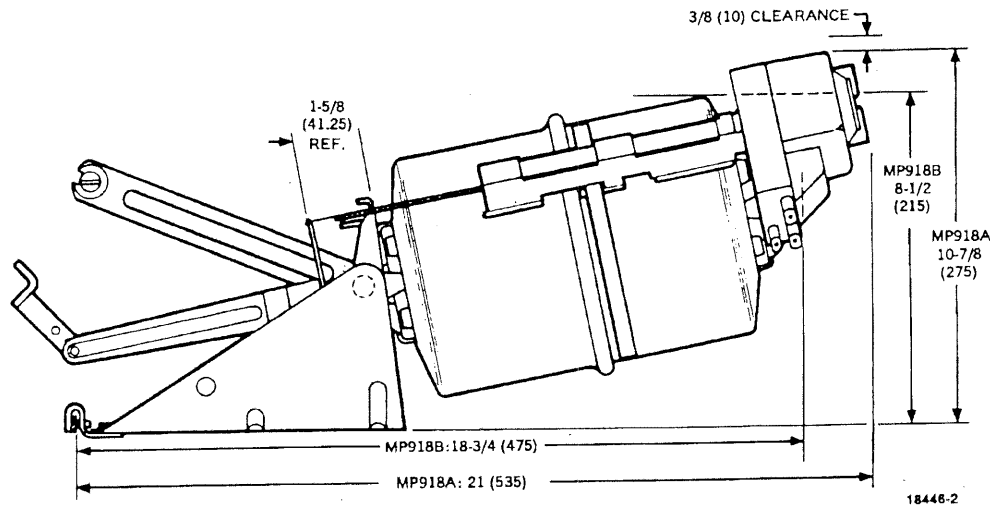

Fig. 8. Internal Mounting Normally Closed Dimensions in Inches (Millimeters).
1. See Figure 8 for internal mounting normally closed dimensions.